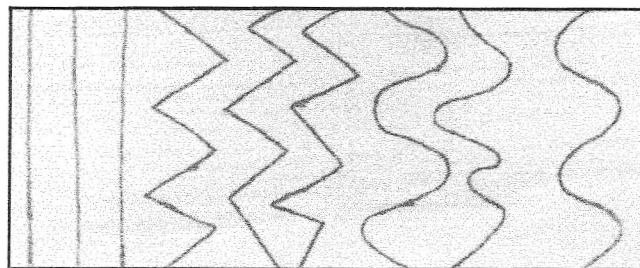

Fig. A-4
**Step #1** -- Take a piece of paper (or draw directly on the wood with a felt tip or ball-point pen) and draw a series of straight and zipzag lines like the ones in the diagram. (See fig. A-4.)